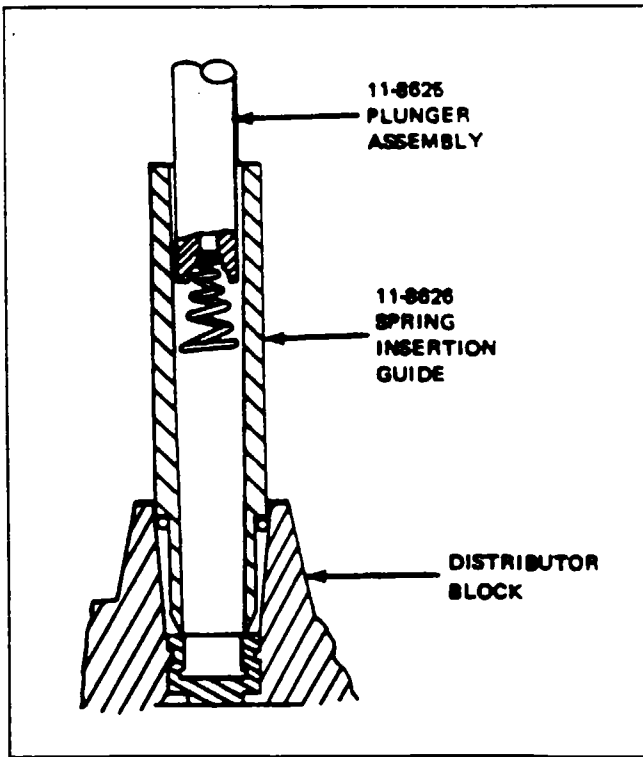

Figure 74-19. Position of 11-8627 Kit and Contact Spring at Start of Installation
6. When lead being replaced is of the elbow type, salvage the used elbow and compression springs for installation on replacement lead. Install these and new sleeve and contact spring, (Refer to Figures 74-19 and 74-20) furnished with replacement lead per instructions given in steps 1 thru 4.